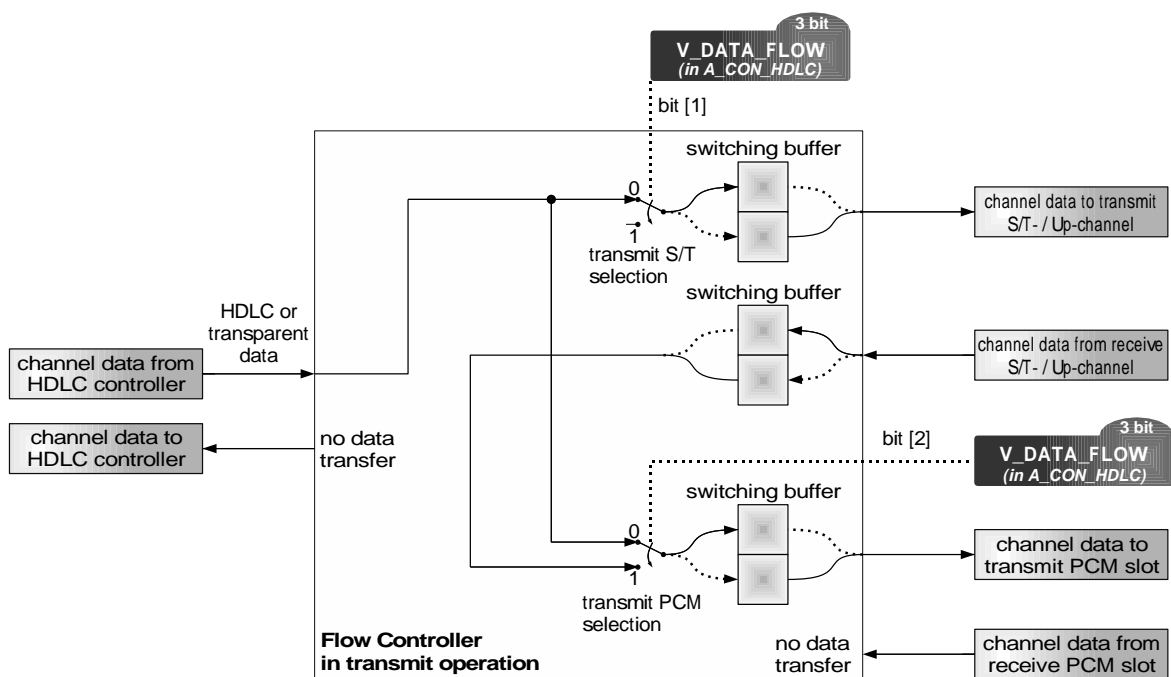

Figure 3.3: The flow controller in transmit operation
In transmit operation one HDLC or transparent byte is read from a FIFO and can be transmitted to the ST/Up and the PCM interface as shown in Figure 3.3. Furthermore, data can be transmitted from the ST/Up interface to the PCM interface. From the flow controller point of view, the switches select the source for outgoing data. They are controlled by bitmap V\_DATA\_FLOW[2..1] in register A\_CON\_HDLC[n,TX] where *n* is a FIFO number. Transmit operation is configured with V\_FIFO\_DIR = '0' in the multi-register R\_FIFO.
- The PCM interface can transmit a data byte which comes either from the FIFO or from the line interface. Bit V\_DATA\_FLOW[2] selects the source for the PCM transmit slot (see Figure 3.3). The receiving ST/Up-channel has always the same number as the transmitting S/T/Up-channel.